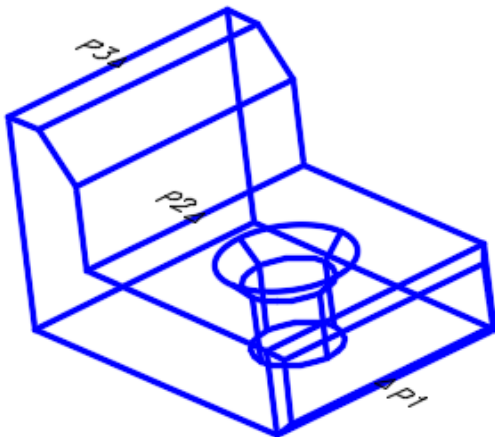

Figure Step 6A
Step 6 Set the current visual style to 2D Wireframe. On the original solid model, enter the SLICE command, as shown below, to slice it into two parts. (Figure Step 6A and 6B)